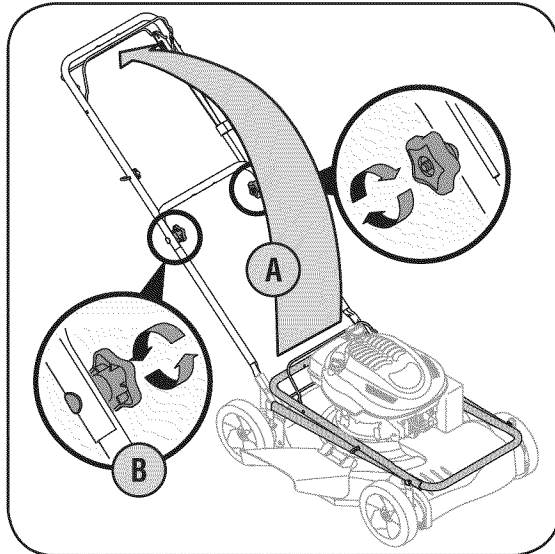

Figure 3-2: Unfold handle and tighten hardware.
- a. Lift the upper handle up from the folded position and pull it back to the extended position, Figure 3-2. The handle should click into this position.